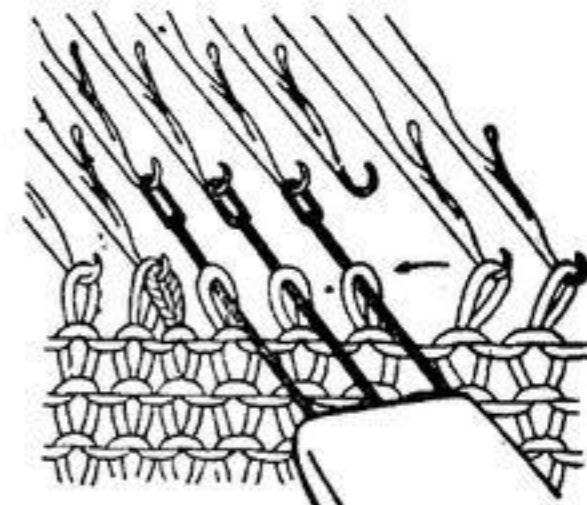

Fig. 42-2
- (b) Using the treble eye Transfer Tool, move all the stitches over until the end needle is empty. (Fig. 42-2)